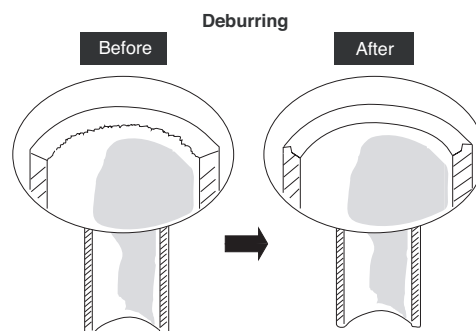

Fig. 25
- Remove burrs at the end of the copper tube with a reamer or file. This procedure is important and should be done carefully to make a good flare. (Fig. 25)